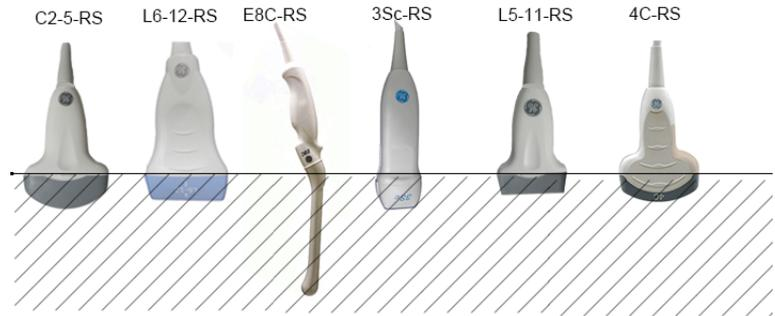

Figure 5-4. Probe Immersion Levels
**NOTE:** *Do not immerse the probe into any liquid beyond the level specified for that probe (Figure 5-4 on page 5-13). Never immerse the transducer connector into any liquid.*